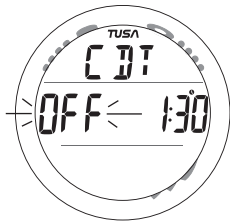

Fig. 109 - CDT STATUS
- A (< 2 sec) will save the Seconds Set Point and revert to the CDT Status screen with the graphic OFF (flashing) in place of the graphic SET (Fig. 109).